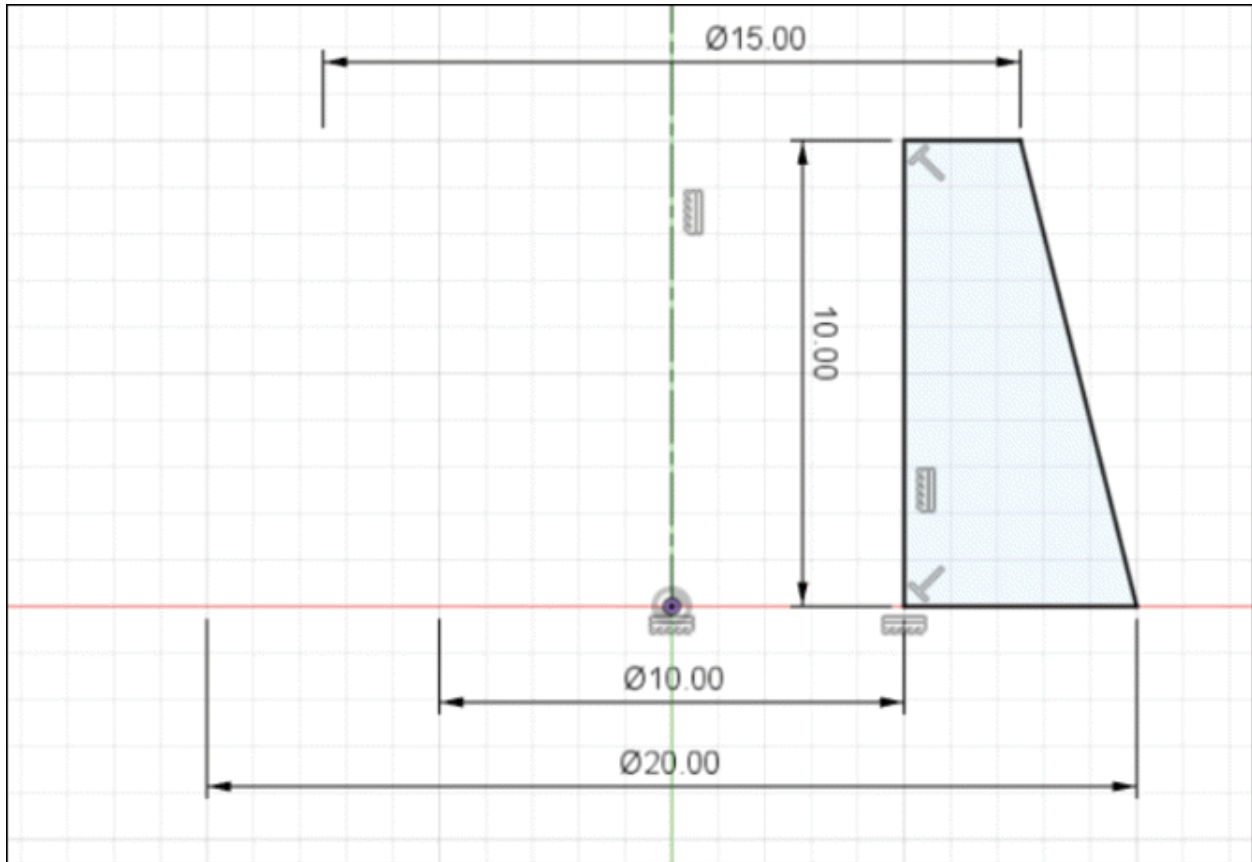

Figure-103. Sketch for wing base
- Create the sketch as shown in Figure-103 using **Line** tool. Click on the **Finish Sketch** tool from **Ribbon** after creating sketch.